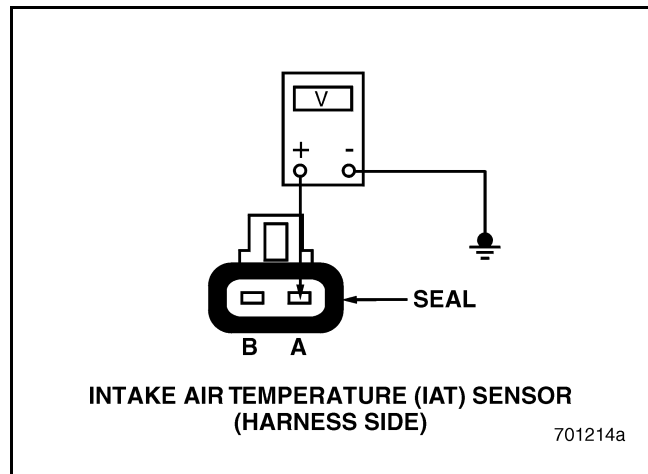

Figure 205
5. Measure the voltage between pin A of the IAT Sensor harness connector and a good ground (see Figure 205).